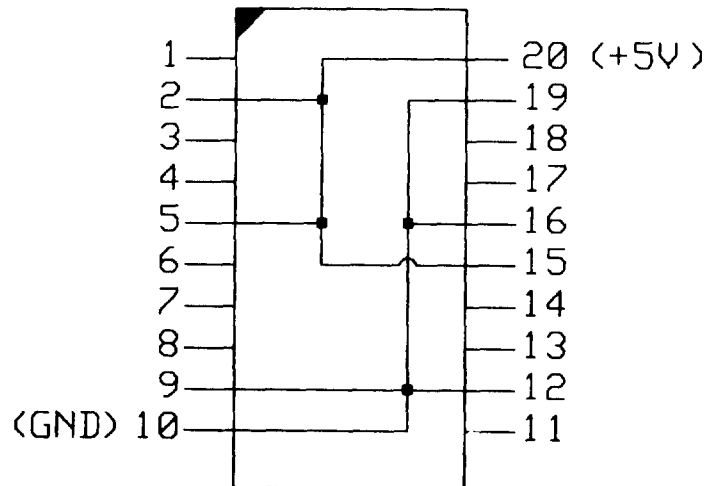

Fig. E-1: Header U27
The modification involves in replacing IC U27 and U28 with pre-programmed header as shown in Figure E-1 and Figure E-2 below. Firmware EPROM, U23 will be replaced by an EPROM which contains program such as NET/ROM, THENET etc.
2. Construct Header U27 by connecting pins 9, 12, 16 and 19 to ground at pin 10. Connect pins 2, 5 and 15 to +5 Volts at pin 20. See Figure E-1 below.